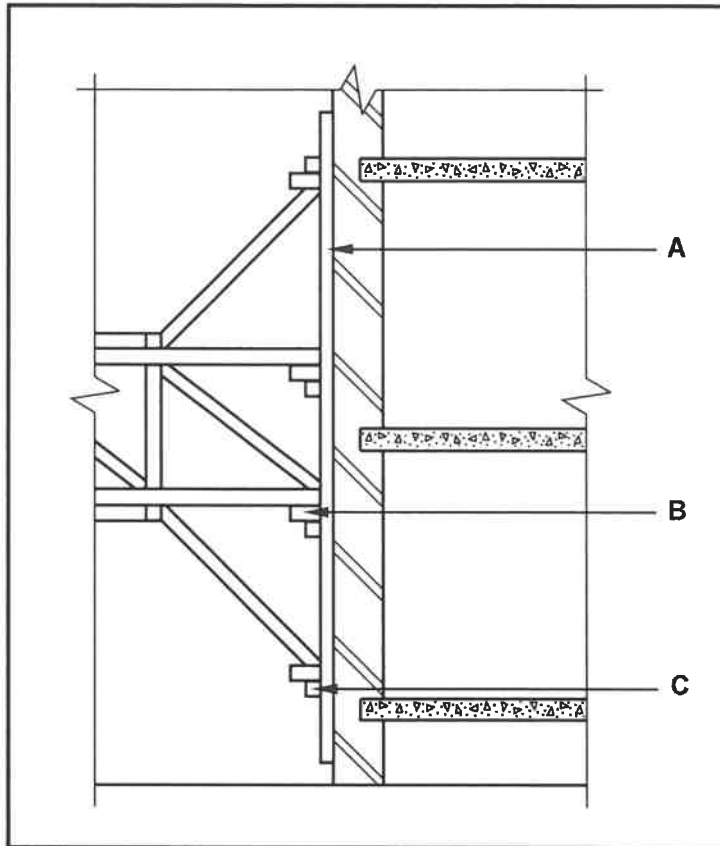

FIGURE 5.1
5.1 FIGURE 5.1 below shows a part of an incomplete shoring.
5.1.1 Identify the type of shoring shown in FIGURE 5.1. (1)